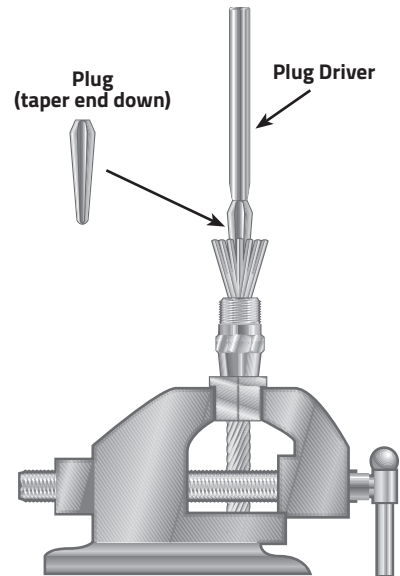

Figure 3
**STEP 4: Install the Plug.** (Figure 3) Go to A, B or C depending on the plug type and follow the instructions below.